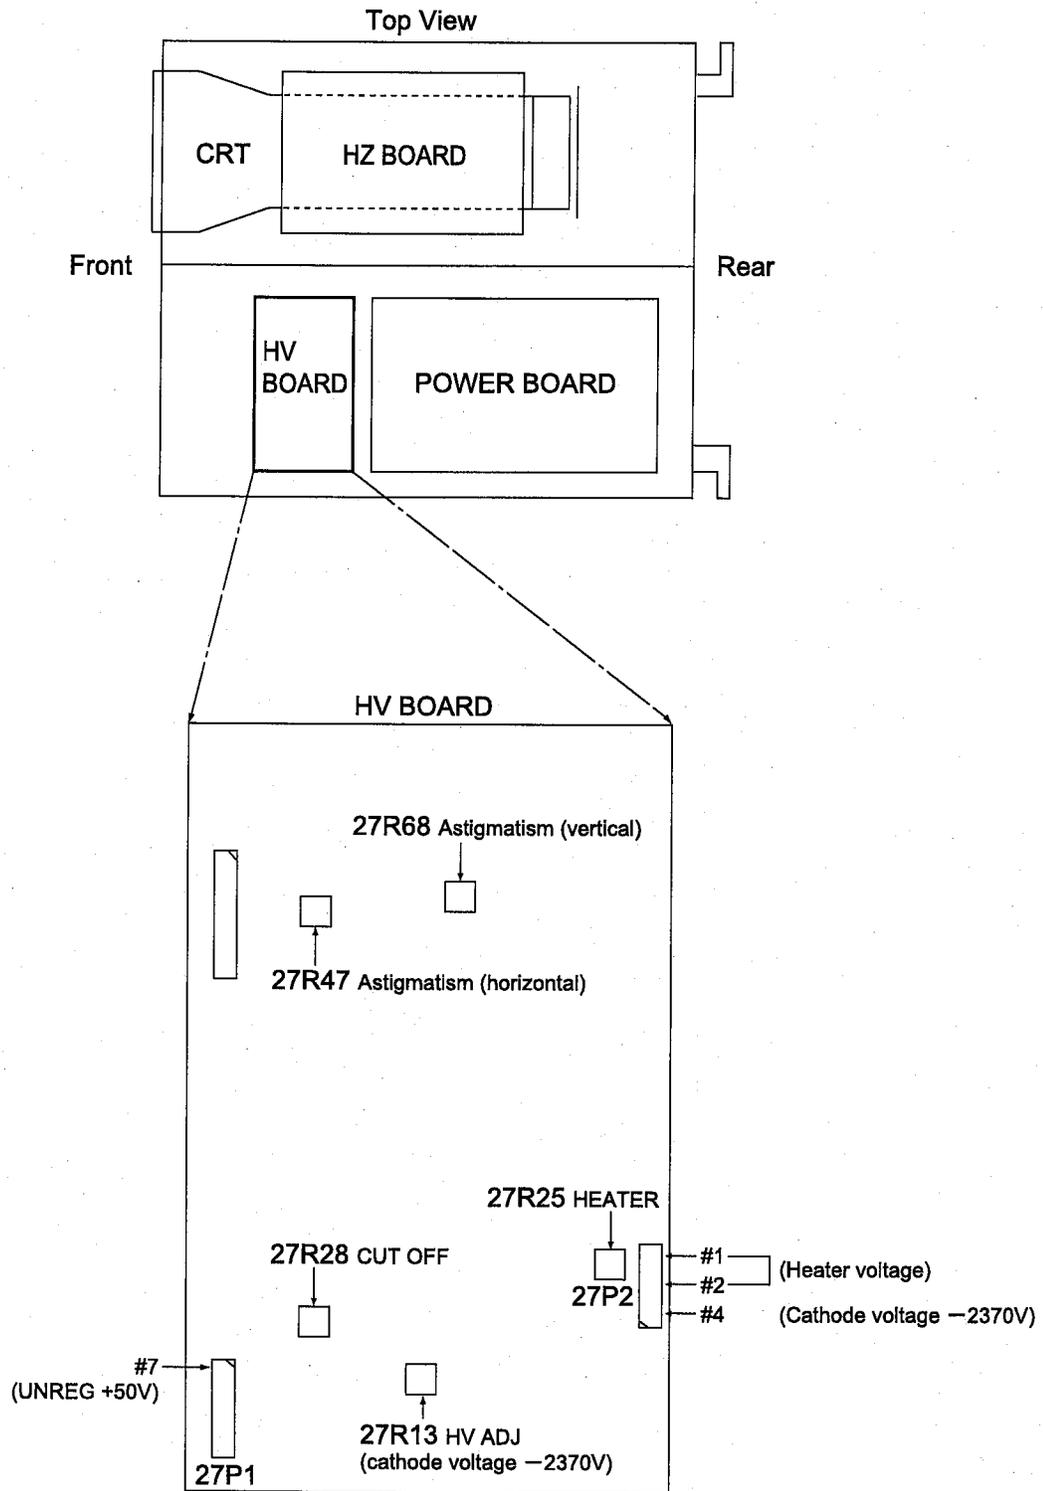
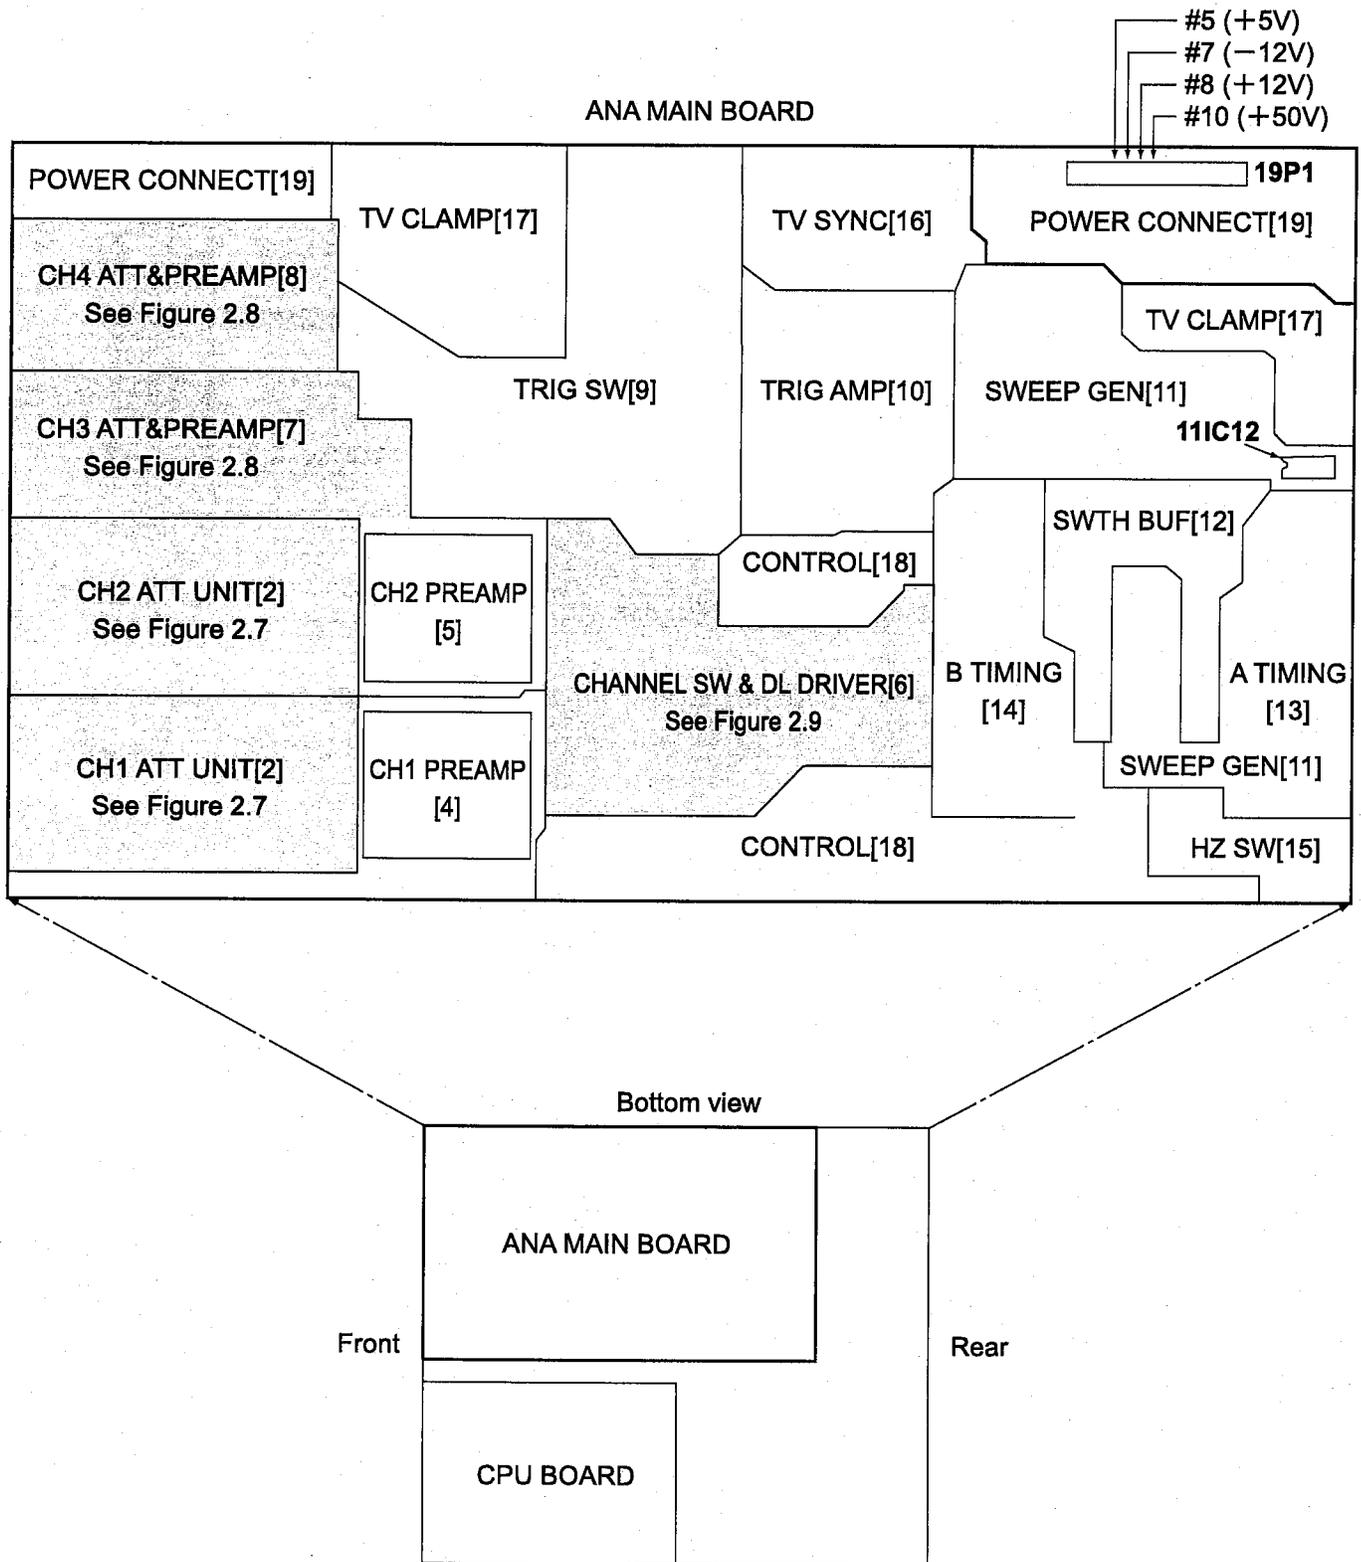
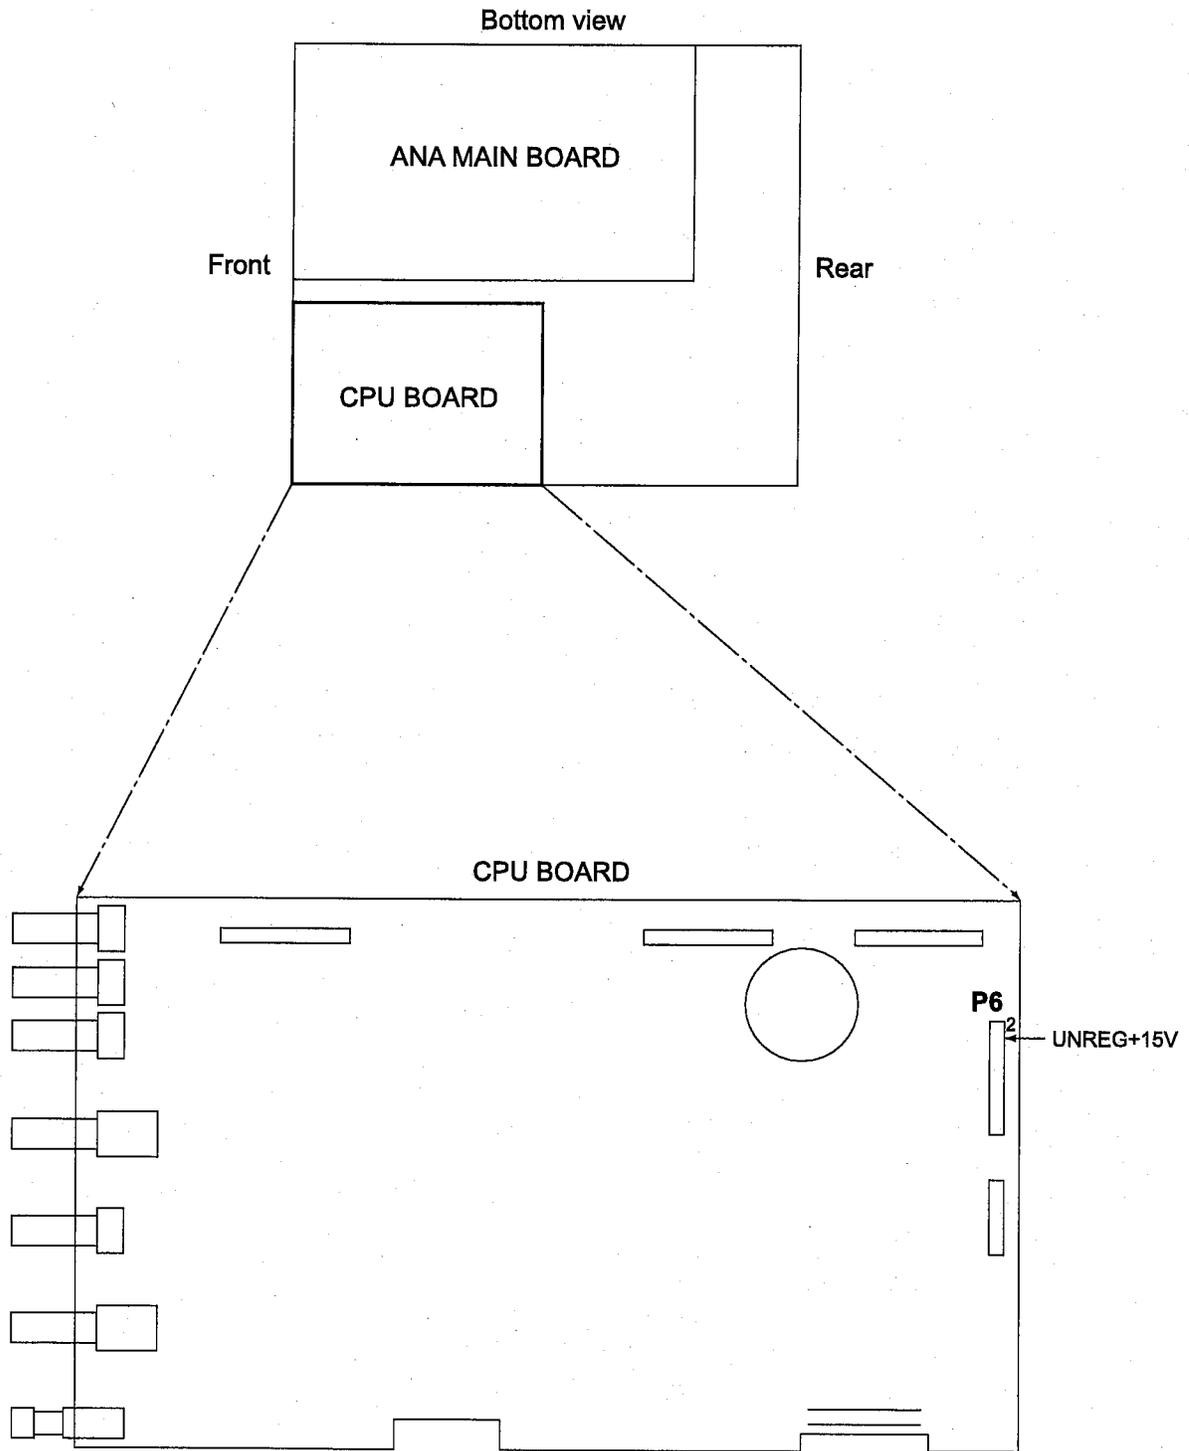

Figure 2.4 HV BOARD
Figure 2.6 ANA MAIN BOARD I (Over All)
Figure 2.11 CPU BOARD
- Figure 2.4 HV BOARD : See page 2-19
- Figure 2.6 ANA MAIN BOARD I (Over All) : See page 2-21
- Figure 2.11 CPU BOARD : See page 2-25
Test/ Adjustment Location	<ul style="list-style-type: none"> <li>• Test point <ul style="list-style-type: none"> <li>19P1 : See "Figure 2.6 ANA MAIN BOARD I (Over All)"</li> <li>25P1 : See "Figure 2.5 HZ BOARD"</li> <li>27P1 : See "Figure 2.4 HV BOARD"</li> <li>P6 : See "Figure 2.11 CPU BOARD"</li> </ul> </li> <li>• Adjustment <ul style="list-style-type: none"> <li>VR2 : See "Figure 2.3 POWER BOARD"</li> </ul> </li> </ul>
Check/ Adjustment Location	27P2 #4, 27R13 : See "Figure 2.4 HV BOARD"
Check/ Adjustment Location	27P2, 27R25 : See "Figure 2.4 HV BOARD"
Check/ Adjustment Location	26R134, 26R133 : See "Figure 2.5 HV BOARD" 27R47, 27R68 : See "Figure 2.4 HV BOARD"
Check/ Adjustment Location	27R28 : See "Figure 2.4 HV BOARD"